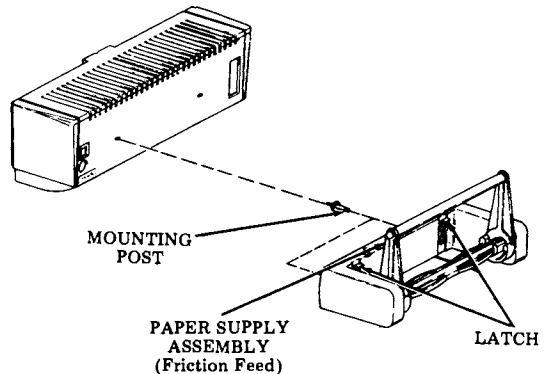

Fig. 8
- 3.17 Assemble the paper supply assembly as shown in Fig. 8. Pull the latches straight up and slide the paper supply assembly fully onto the mounting posts located at the rear of the bustle cover. Push down on the latches until they are secured over the mounting posts.